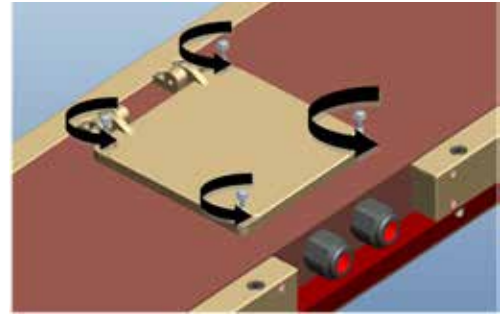

Figure 16. GX Quad Power Connector
**Step 1:** Open DC power chamber by loosening the four M3 screws. See Figure 16.